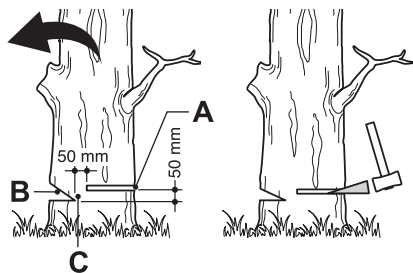

Fig. 29
Make the notch (Fig. 29, B) 1/3 the diameter of the tree, perpendicular to the direction of falls (Fig. 29). Make the lower horizontal notching cut first. This will help to avoid pinching either the saw chain or the guide bar when the second notch is being made.
1. Make the felling back cut (Fig. 29, A) at least 50 mm higher than the horizontal notching cut (Fig. 29). Keep the felling back cut parallel to the horizontal notching cut. Make the felling back cut so enough wood is left to act as a hinge. The hinge wood (Fig. 29, C) keeps the tree from twisting and falling in the wrong direction. Do not cut through the hinge.